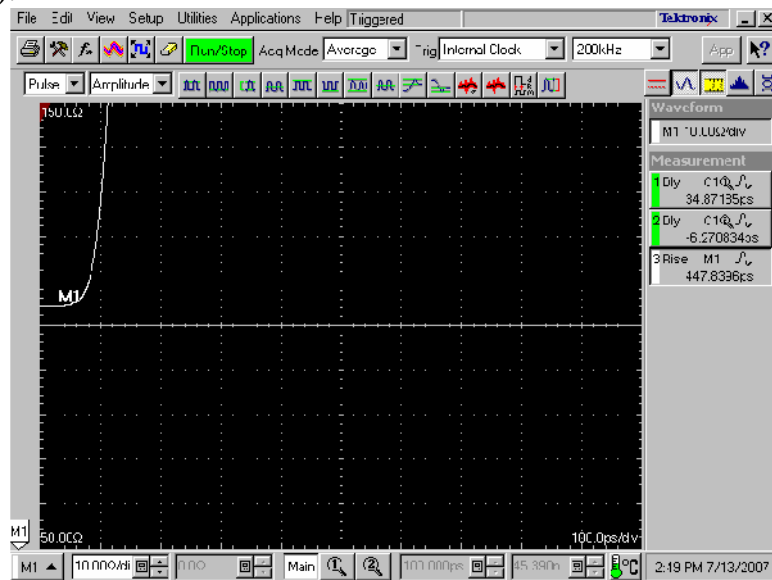

Figure 7: TDR rise-time waveform
8. Adjust the **HORIZONTAL POSITION** knob so that the rise-time waveform is displayed at near 1 major division from the left side of the screen (see Figure 7).